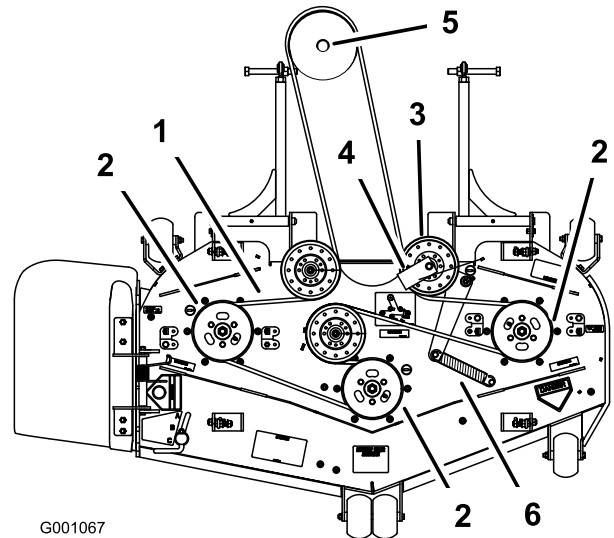

Figure 71
8. Install the new belt around the mower pulleys and the gearbox pulley under the engine (Figure 71).
9. Install the belt guide on the spring loaded idler at a 45 degree angle as shown in Figure 71. Torque the bolt to 37 to 45 N-m (27 to 33 ft-lb).
10. Install the idler spring to the two posts (Figure 71).